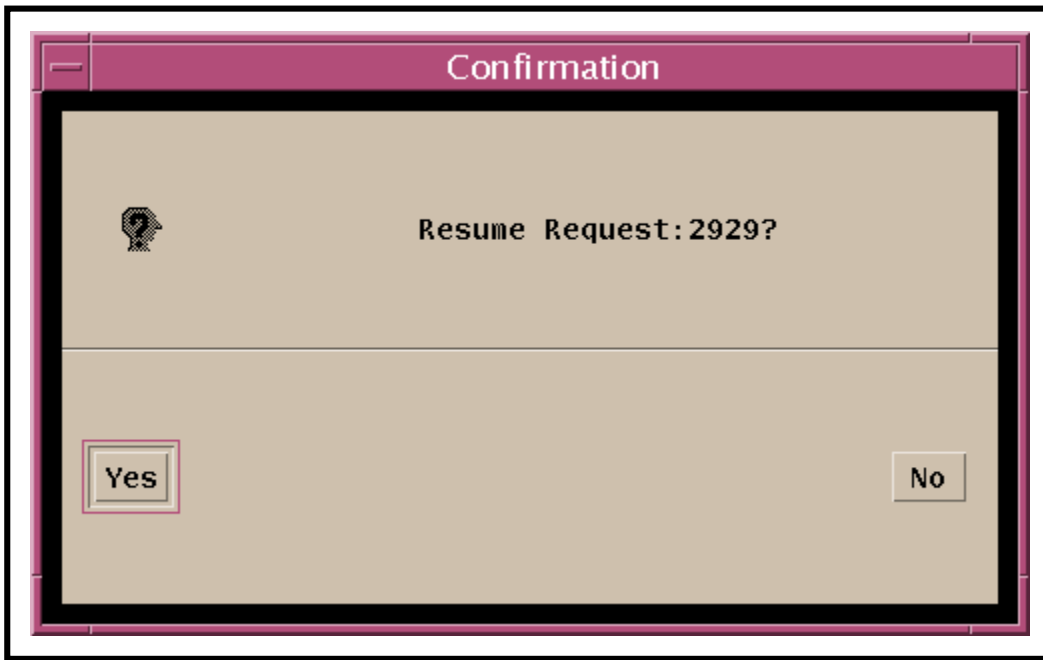

Figure 12. Resume Request Confirmation Dialogue Box
- A **Resume Request Confirmation Dialogue Box** (Figure 12) is displayed.
- The **Resume Request Confirmation Dialogue Box** (Figure 12) is dismissed.